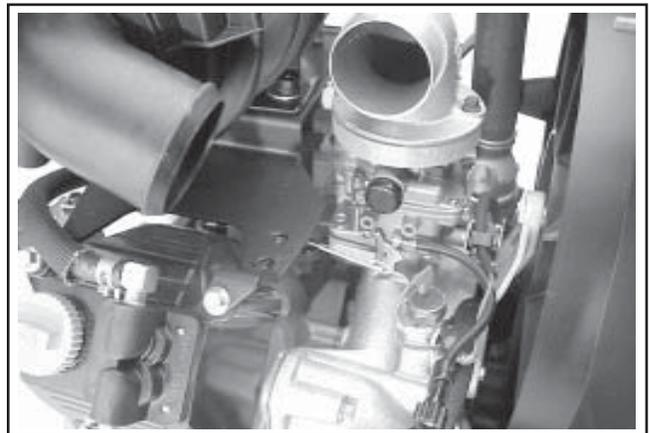

Figure 5-4. Carburetor Mounting Detail.
- Once proper float height is obtained, carefully lower the carburetor upper body onto the carburetor lower body, connecting the choke linkage. Install the four screws. Torque screws to **1.7 N·m (15 in. lb.)**. See Figure 5-4.